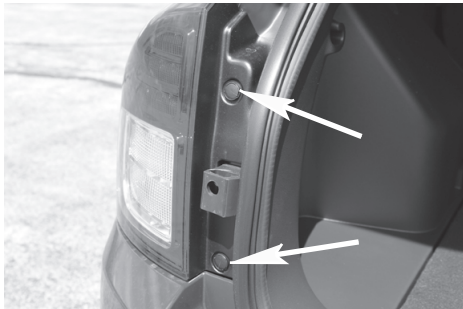

Figure 1
2. Open tailgate remove two push clips that hold both taillight assemblies to vehicle using a flat screwdriver shown in **Figure 1**.